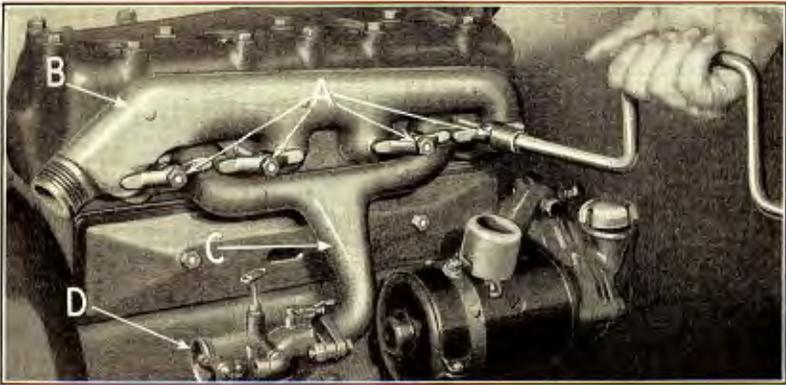

Fig. 129
- 200 Remove exhaust, and intake manifolds together with carburetor by running off the four manifold stud nuts (See “A” Fig. 129) and withdrawing clamps. Exhaust manifold “B” can then be removed and intake manifold “C” with carburetor “D” attached, lifted from cylinder block.